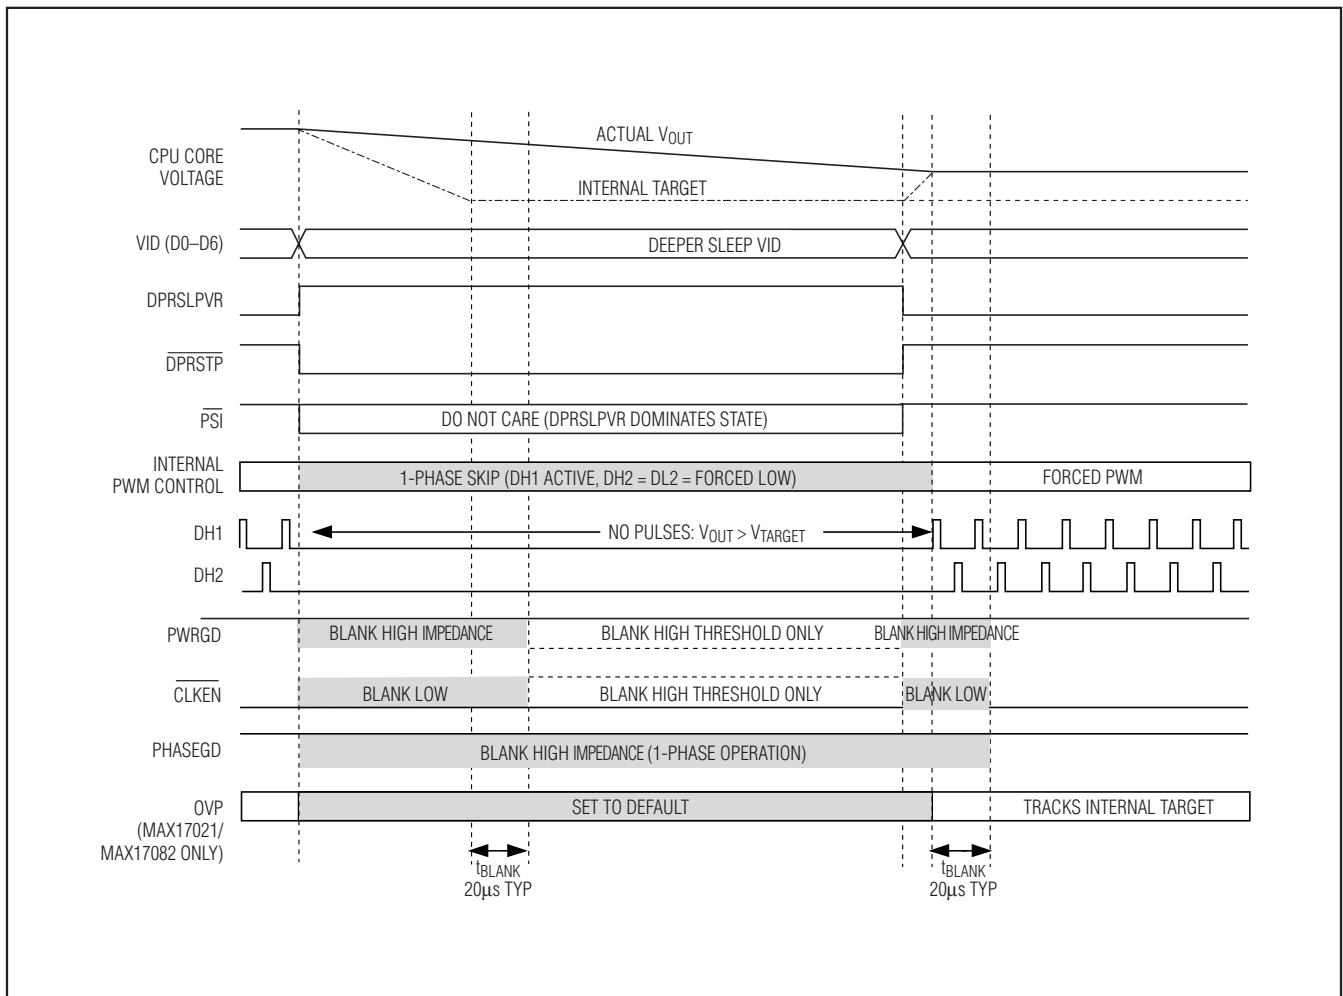

Figure 5. C4E (C4 Early Exit) Transition
When DPRSLPVR goes high, the MAX17021/MAX17082/MAX17482 immediately disable phase 2 (DH2 and DL2 forced low), blank PHASEGD high impedance, and enter pulse-skipping operation (see Figures 5 and 6). If the VIDs are set to a lower voltage setting, the output drops at a rate determined by the load and the output capacitance. The internal target still ramps as before, and PWRGD remains blanked high impedance until 20 μ s after the output voltage reaches the internal target.
- **Fast C4E Deeper Sleep Exit:** When exiting deeper sleep (DPRSLPVR pulled low) while the output voltage still exceeds the deeper sleep voltage, the MAX17021/MAX17082/MAX17482 quickly slew (50mV/ μ s min regardless of R_{TIME} setting) the internal target voltage to the DAC code provided by the processor as long as the output voltage is above the new target. The controller remains in skip mode until the output voltage equals the internal target. Once the internal target reaches the output voltage, phase 2 is enabled. The controller blanks PWRGD, PHASEGD, and CLKEN until 20 μ s after the transition is completed. See Figure 5.